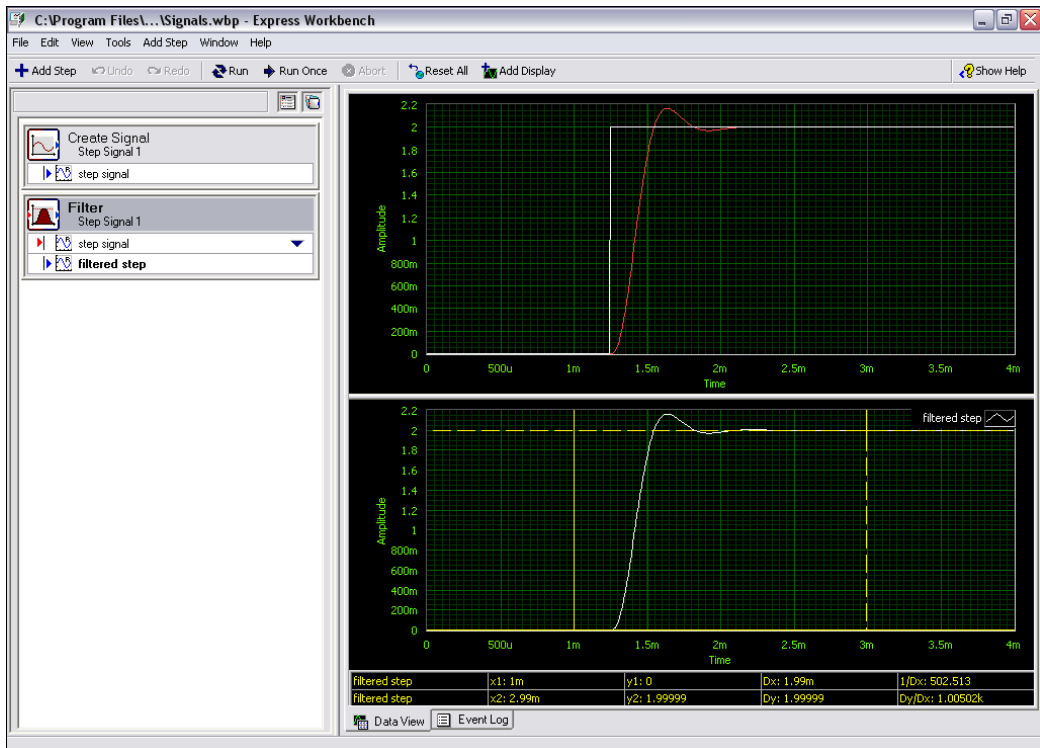

Figure 4-1. Signals.wbp
6. Right-click the new graph and select **Cursors** from the shortcut menu to display two interactive cursors, as shown in Figure 4-1.